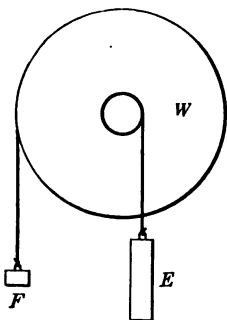

FIG. 90
3. *The Wheel and Axle* (Fig. 90). A glance at the figure shows that a small force,  $F$ , applied to the wheel  $W$ , will move a large weight,  $E$ , applied at the axle. Also a large force at the axle will cause a smaller weight on the wheel to move more rapidly. The rate of gain in either case would be as the circumference of one wheel is to that of the other. Or they might both be considered as lever arms, each arm being the distance from the center to the circumference.